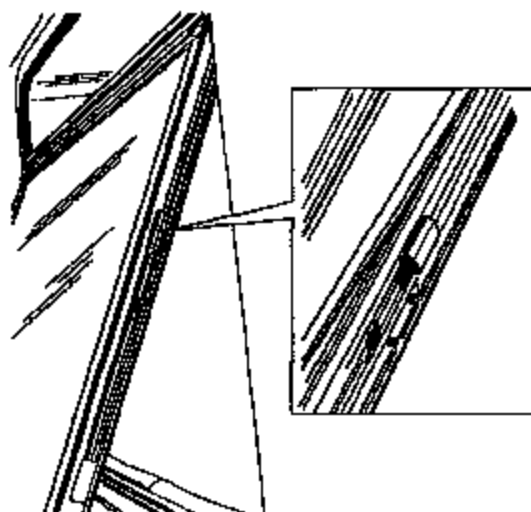

Figure 1-3 Wedge Spacer Block Location
2. Locate the wedge spacer block located above the emergency handle mechanism. See Figure 1-3.